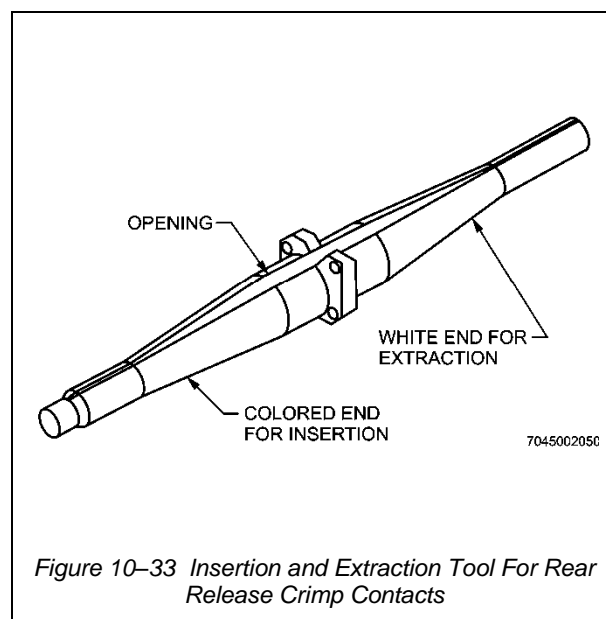

Figure 10-33 Insertion and Extraction Tool For Rear Release Crimp Contacts
54. There is a separate tool for each contact size. The tools may be plastic or metal, single or double ended tools (see Figure 10-33) or metal tweezer type tools (see Figure 10-34). See Figure 10-35 and Figure 10-36 for contact installation instructions. See Figure 10-37 and Figure 10-38 for contact removal instructions.